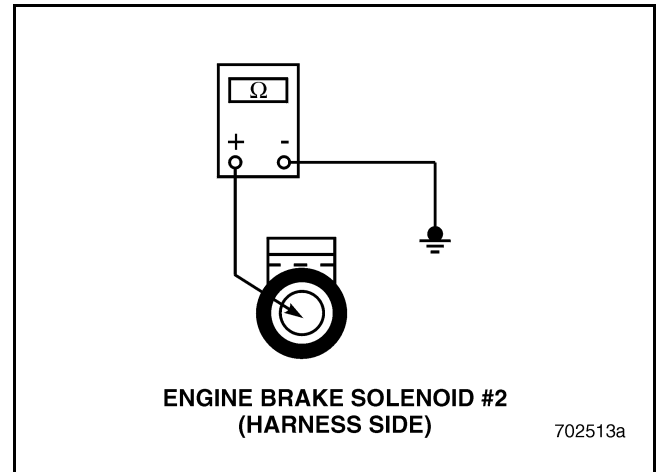

Figure 434
3. Check for continuity between the terminal of Engine Brake Solenoid #2 and a good ground (see Figure 434).